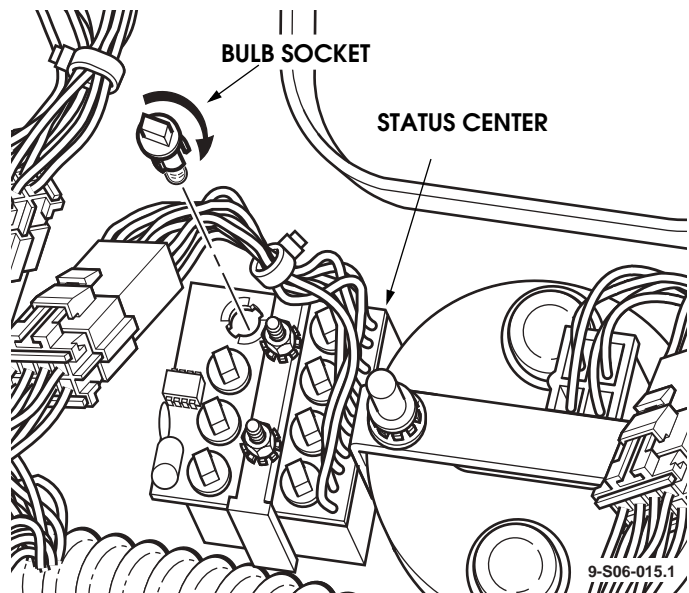

Figure 10-18: Instrument Panel Indicator Light Replacement
3. Pull lamp from socket (Figure 10-18).
1. Push lamp into socket (Figure 10-18).